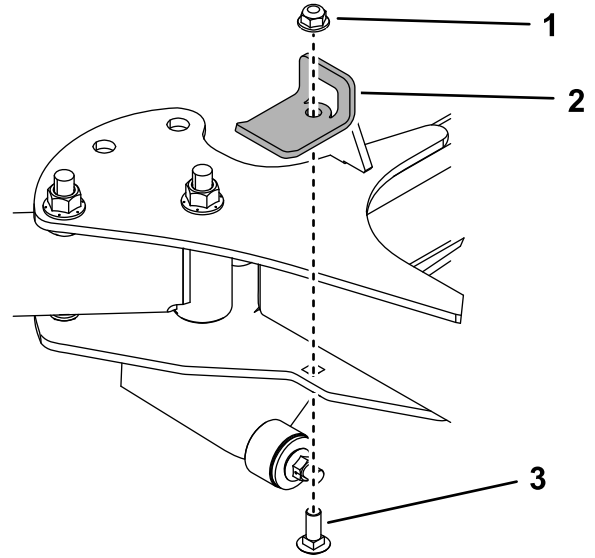

Figure 9
- Use a carriage bolt (3/8 x 1 inch) and a locknut (3/8 inch) to install the stop brackets to both sides of the machine (Figure 9). Torque the bolt to 37 to 45 N·m (27 to 33 ft-lb).